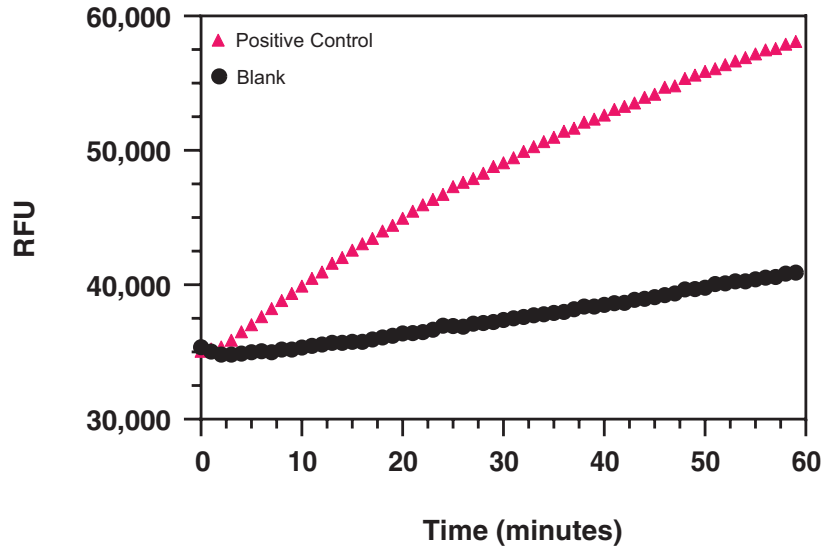

Figure 3. Trx Positive Control Activity
3. Determine the change in RFU per minute for each PC, sample, sample background, and Blk well by plotting the average fluorescence values as a function of time (see Figure 3, page 16), and either: